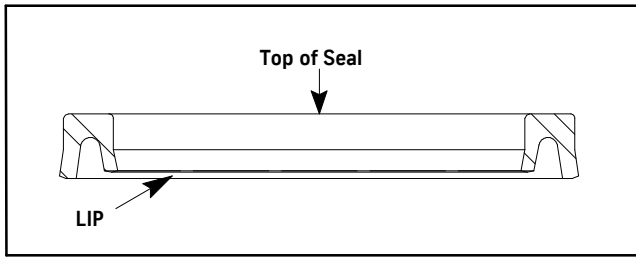

Figure 27 - Seal Orientation
3. Push the seal over the plunger and down into the seal recess until it bottoms out. See Figure 27 for proper orientation.